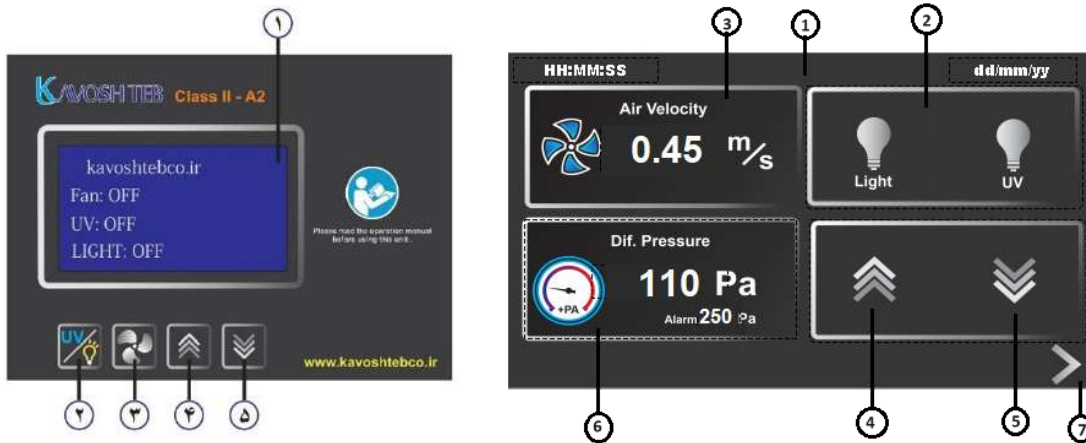

Figure 4-1. Interface
4. The Main Screen (Figure 4-1) displays the main operating parameters and including window status.